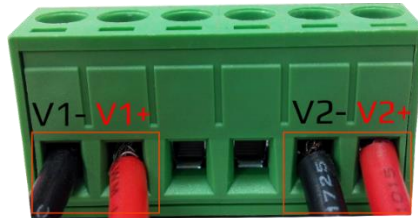

Figure 2.9: Power Terminal Block
Step 1. Insert the positive and negative wires into the PWR1 (V1+, V1-) and PWR2 (V2+, V2-) contacts on the terminal block connector as shown below in Figure 2.9.